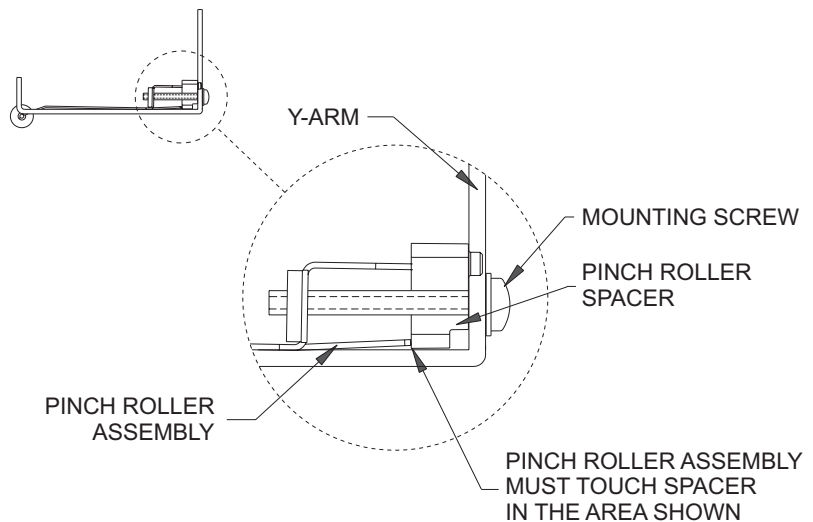

Figure 3-19. Correct Positioning of the Spring in the Pinch Roller Support.
7. Following all of the information in this section precisely will ensure that the Pinch Roller Support springs are deflected and the lower tail of the springs will always be pressed against the Pinch Roller Spacer (without a gap) as shown in Figure 3-19.